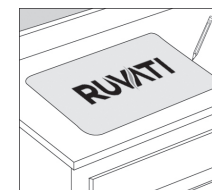

Figure 1
1. Place the sink cut-out template on the countertop, where the sink is to be installed. Trace around the outside perimeter with a pencil. (Figure 1)